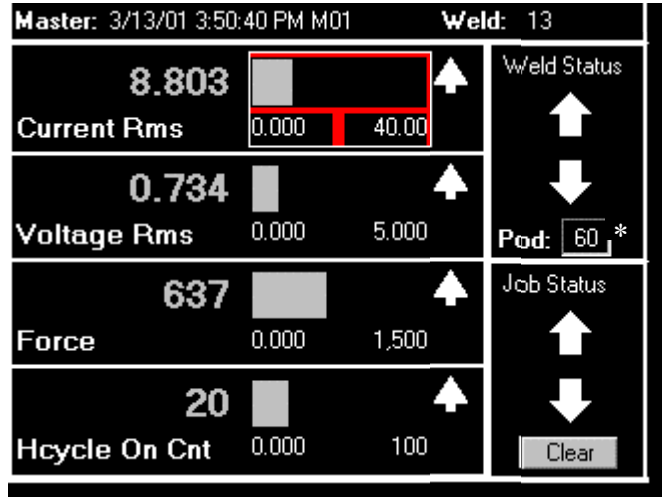

Figure 5-14 Main program screen with new master date/time stamp displayed
2. Make another weld. Notice that the newly created master is displayed in the top left, indicating that the weld was compared against this master, as shown in figure 5-14. Ideally this weld should have accepted and a check mark should be displayed in the **Weld Status** box. If there are flashing arrows in the **Weld Status** box, then weld rejected for some reason. Either the weld was rejected because the master tolerances are set too tightly, or either the master weld or the last weld made was not characteristic of a typical weld for this process.